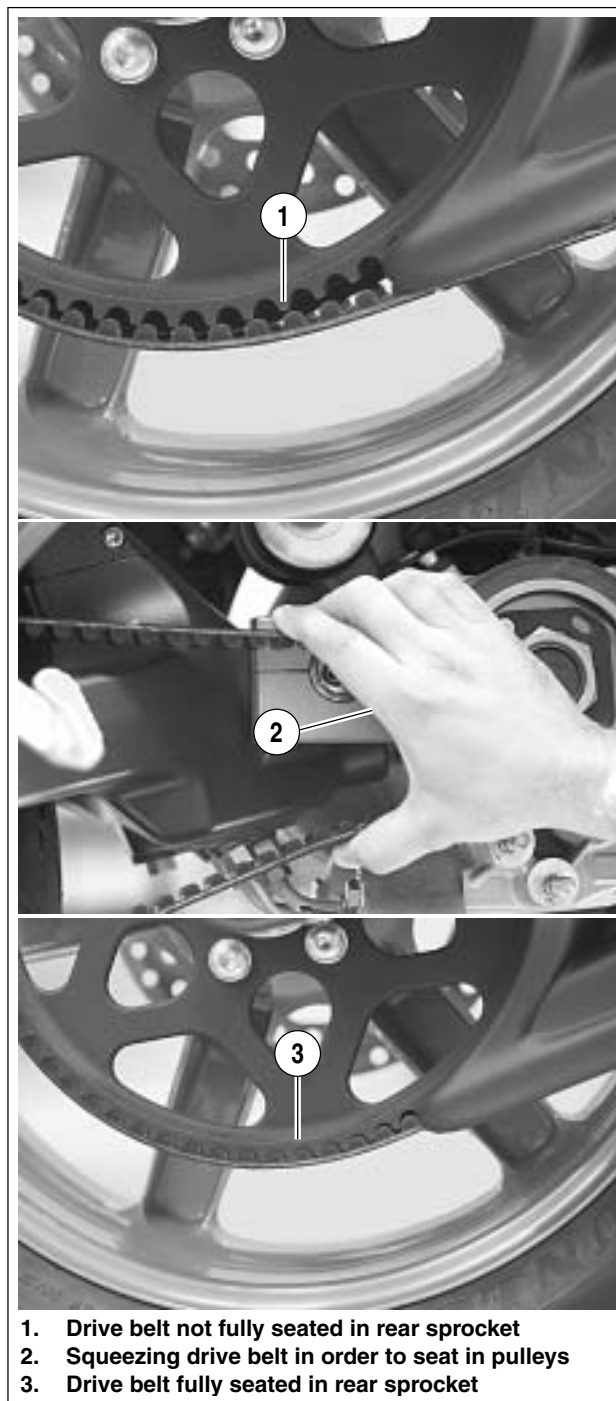

Figure 6-40. Seating Drive Belt Into Pulley Teeth
See Figure 6-40. Occasionally the drive belt is not fully seated in rear sprocket making it difficult to install the idler pulley. It will be necessary to follow the outlined procedure in order to easily install idler pulley.
6. See Figure 6-40. Grasp top and bottom of drive belt and squeeze together until belt teeth are fully seated in rear sprocket.